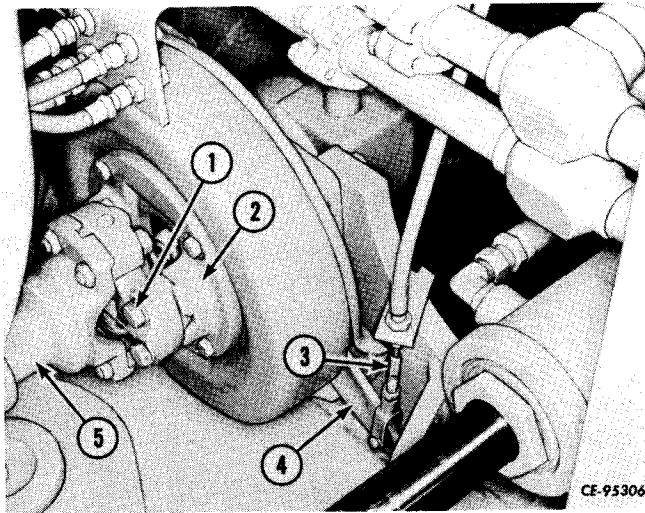

Figure 13-100
Remove the cap screws (1, Fig. 13-100) that secure the transmission to transfer drive shaft (5) to the transfer drive yoke (2). Remove the drive shaft from the yoke.